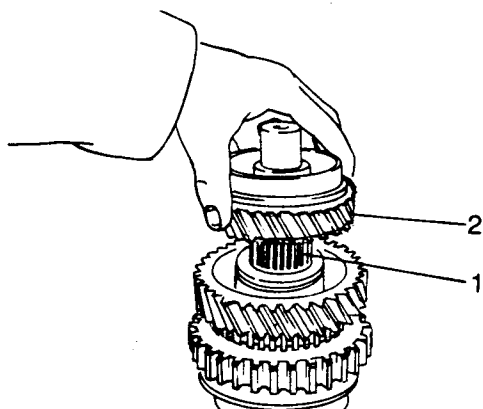

Fig H1.155
- (5) Refer to Fig H1.155. Fit the 3rd speed bearing (1).
- (6) The 3rd gear (2) should be fitted with the conical surface towards the front end of the main shaft.